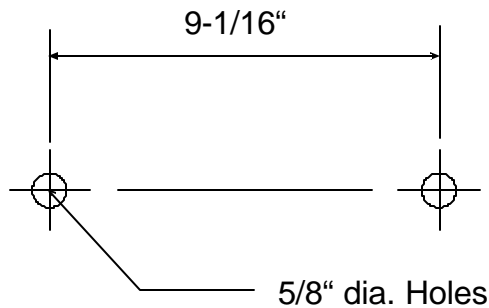

Figure 2
3. Mount the washdown station to the wall by drilling two (2) 5/8" diameter holes, minimum 1-1/2" deep, with masonry drill 9 1/16" apart and on a horizontal plane. See Figure 2. After drilling holes, insert bolt anchors into holes until they are flush with the wall.